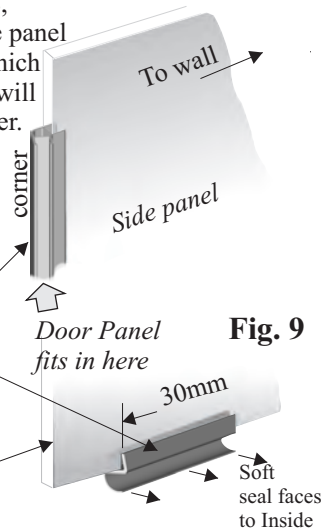

Fig. 9
6.1 On the large glass side panel there is a corner seal into which one of the door side panels will be inserted to form the corner. Using the detail in Fig. 9 determine the bottom of the large side panel and fit the bottom seal as shown.